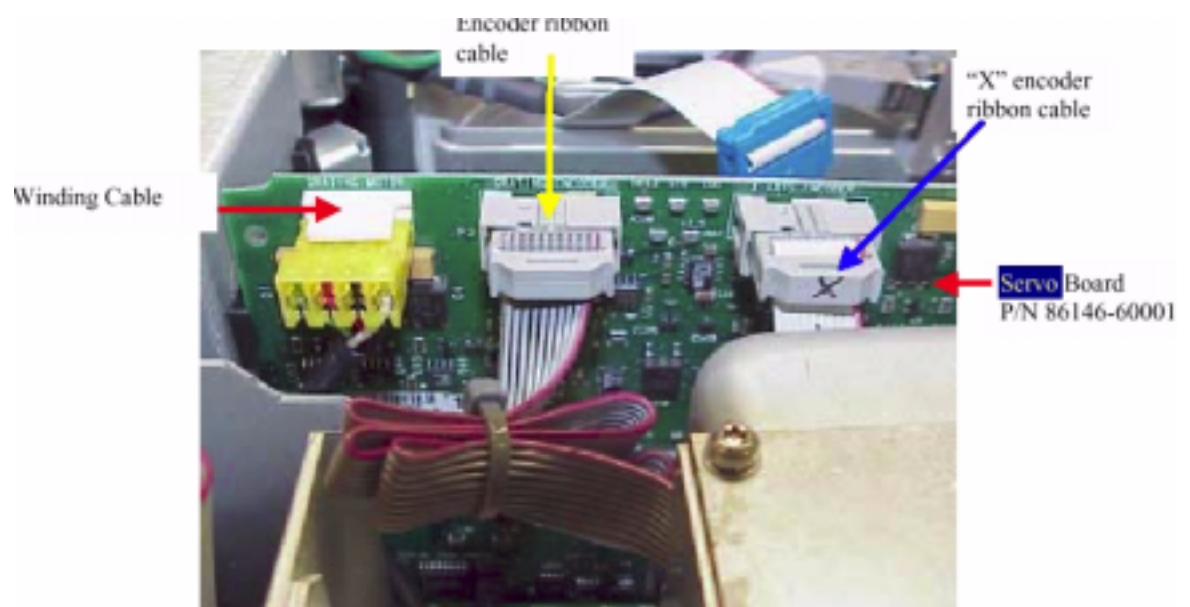

Figure 3-12. Removing the Servo board from the Mezzanine board
- 8** Remove the X encoder ribbon cable from the X-axis encoder connector. See Figure 3-12.
- 9** Remove the encoder ribbon cable from the grating encoder connector. See Figure 3-12.
- 10** Remove the rotator motor winding cable from the grating motor connector. See Figure 3-12.